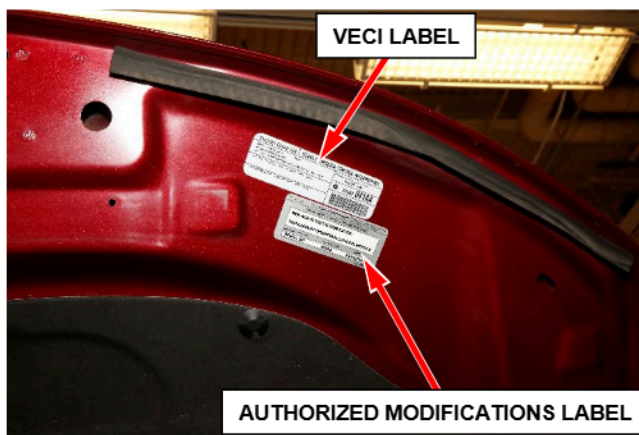

Figure 16 – Apply Authorized Modifications Label Near VECI Label (Specific Vehicle May Look Different)
NOTE: The Authorized Modifications Label should be located near the Vehicle Emission Control Information (VECI) label (Figure 16).
3. Locate the VECI label on the underside of the engine compartment hood (Figure 16).
6. Apply the authorized modifications label next to the VECI label (Figure 16).